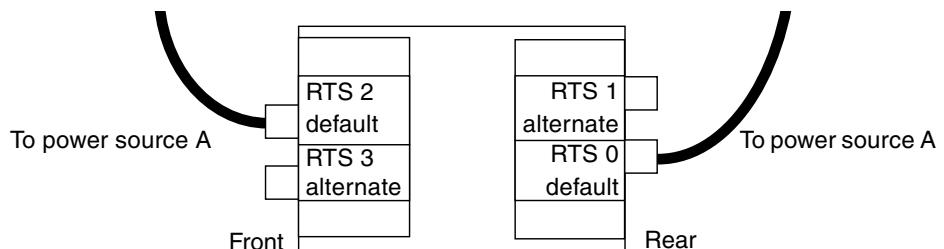

FIGURE 2-9 One AC Power Source
- In configurations with one AC power source there will be two cables to connect, one on the front (on the left), and one on the rear of the system (on the left) (FIGURE 2-9). Connecting the alternate RTS units to outlets that use the same power source as the default RTS units is not supported and will adversely affect reliability.